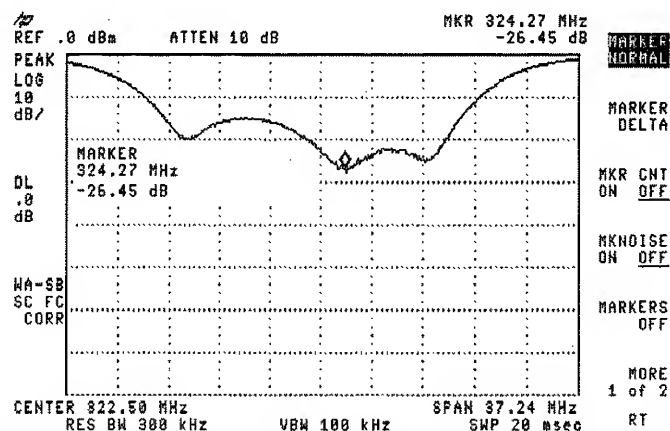

Figure 4-16. Measuring the Return Loss of the Filter
8. Use the marker to read return loss. Press **(MKR)** and position the marker with the knob to read the return loss at that frequency. See Figure 4-16.